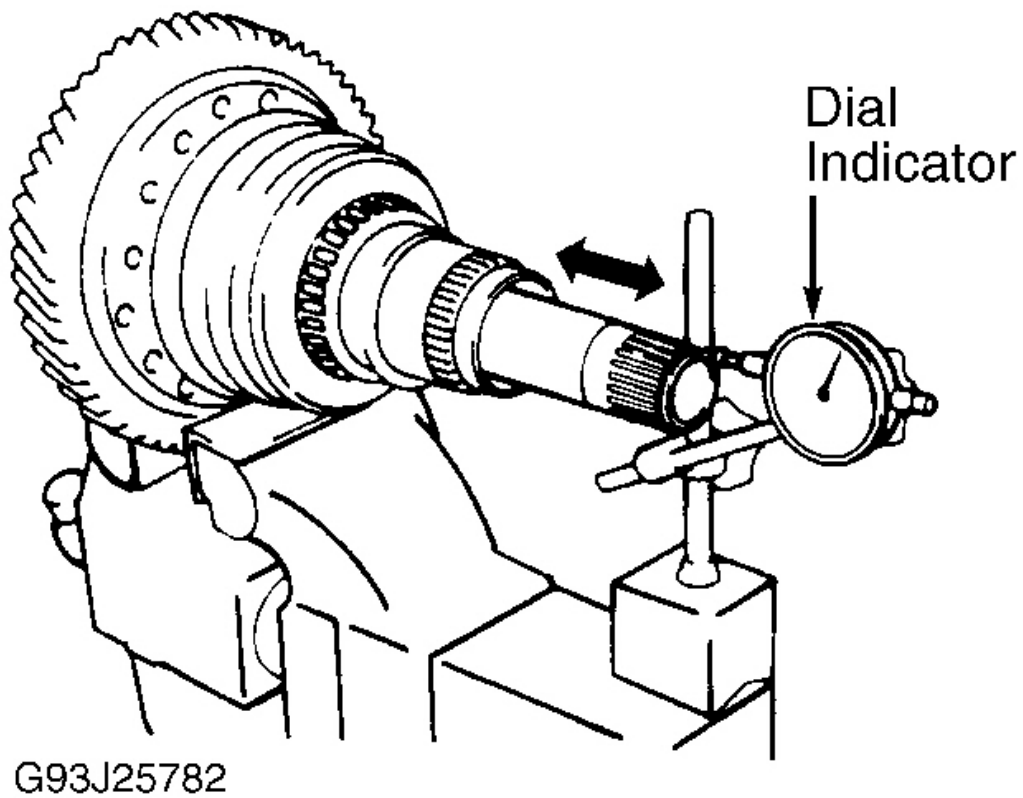

Fig. 49: Checking Differential End Play
- On A-540H, remove right case bearing outer race. See **Fig. 48**. On both models, use a dial indicator to measure differential end play. End play should be .0071-.0323" (.180-.820 mm). See **Fig. 49**. On A-540H, remove ring gear mounting case sleeve. Remove 4 oil seal rings from ring gear mounting right case. Remove snap ring and speedometer drive gear.